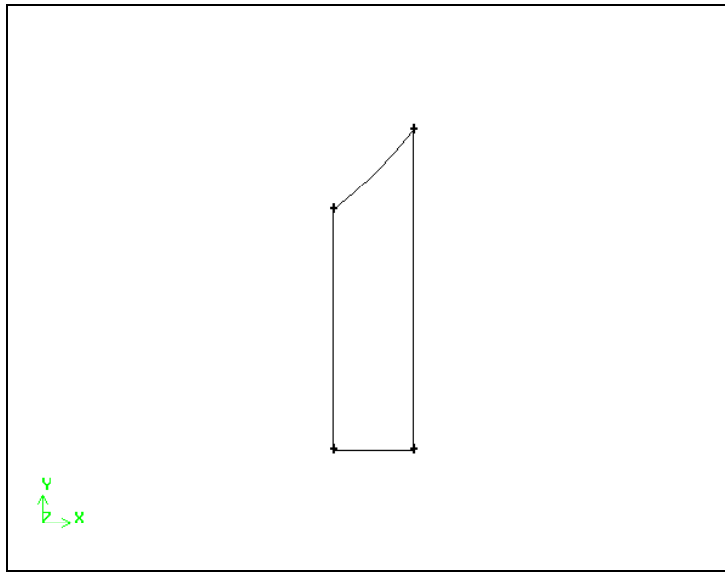

Figure 2-14: Edges used to create face for small pipe
2. Create a face for the small pipe by selecting the four edges shown in Figure 2-14 and then accepting the selected edges.